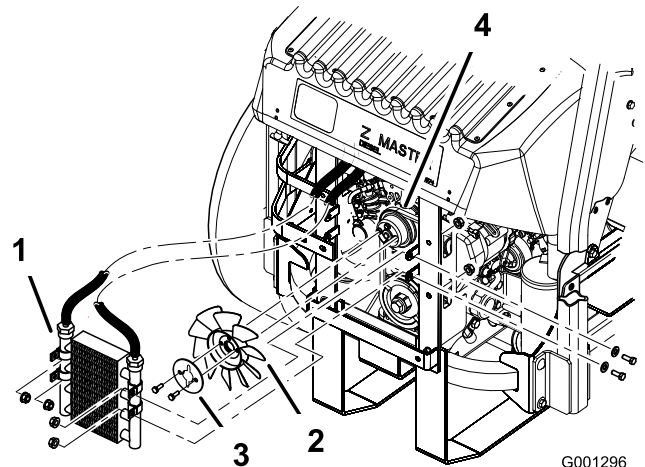

Figure 70
5. Remove the 4 bolts holding the oil cooler and position the oil cooler to the side (Figure 70).
6. Remove the 2 bolts holding the fan and fan plate to the machine (Figure 70).
10. Install the fan and fan plate to the machine with the 2 bolts previously removed (Figure 70).
11. Install the oil cooler with the 4 bolts previously removed (Figure 70).